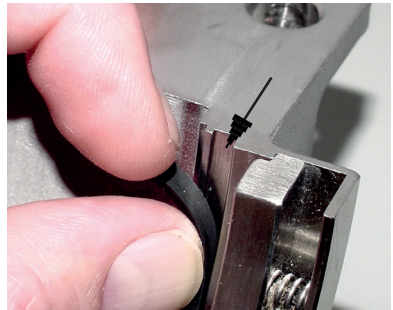

Figure 20
- 6.4 Pull back 0.50 inch (12.7 mm) of the seat gasket. Use a paper clip to put two dots of adhesive in the groove approximately 0.25 inch (6.35 mm) and 0.50 inch (12.7 mm) from the gland joint surface. See Figure 20.